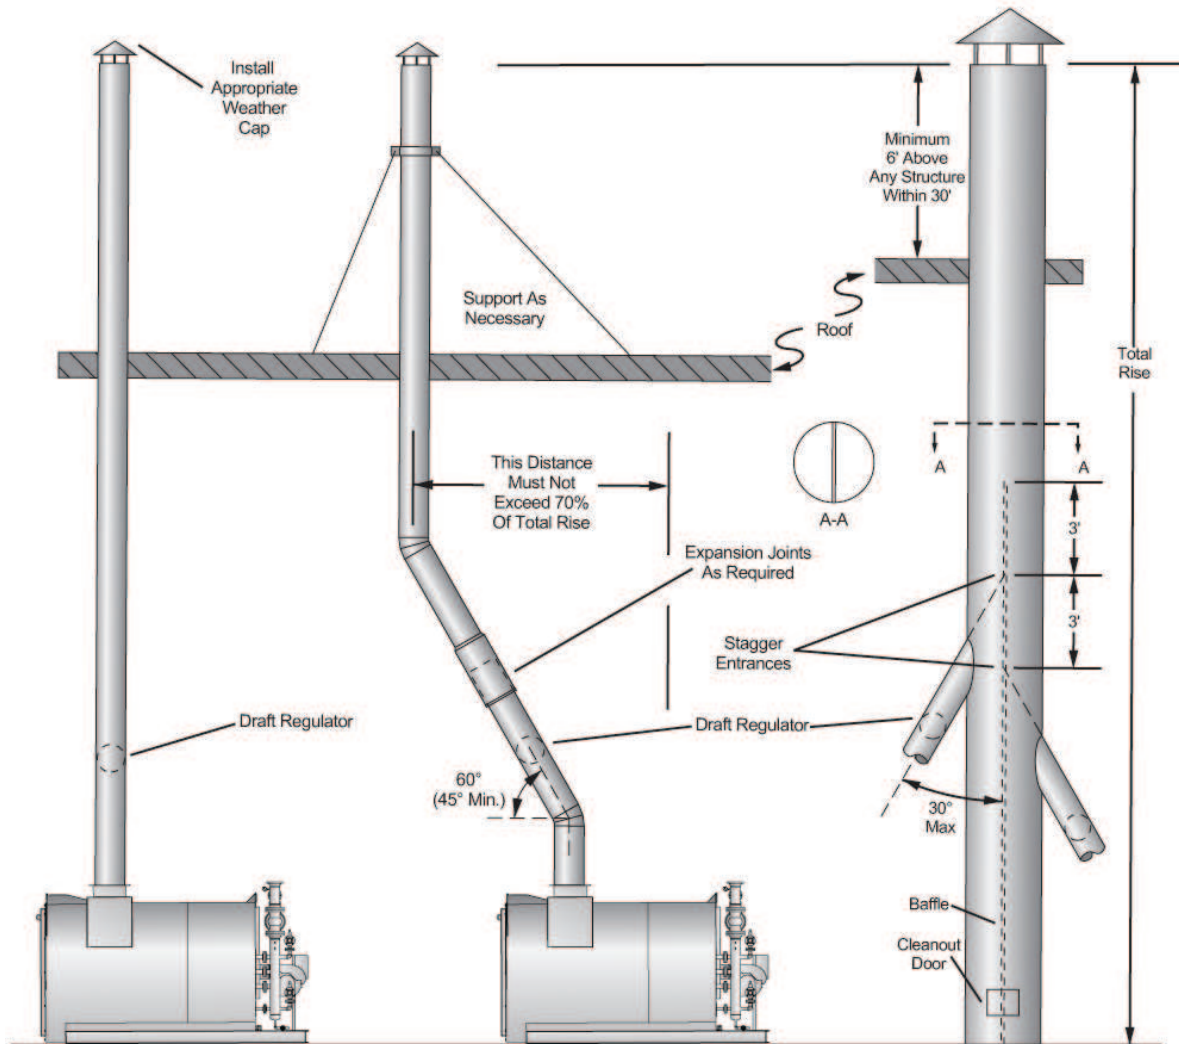

FIGURE 17 - TYPICAL STACK AND FLUE INSTALLATION
Adhere to the following for stack and flue installation (see Figure 17):
4. Ensure the run in the total distance of stack ducting, as measured in a straight line from the outlet of the heater to the outlet of the stack, does not exceed 70% of the rise. With the exception of the duct run previously described, horizontal sections of ducting must be avoided and should not exceed 4 feet (1.2 m) total. See Figure 17.